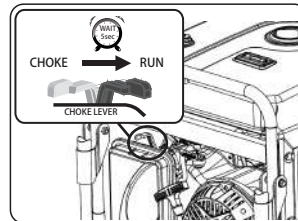

Fig 14
- Let engine run for several seconds and then gradually, as engine warms up, slide the choke lever towards the "RUN" position until the choke is fully at the "RUN" position. (See fig 14)